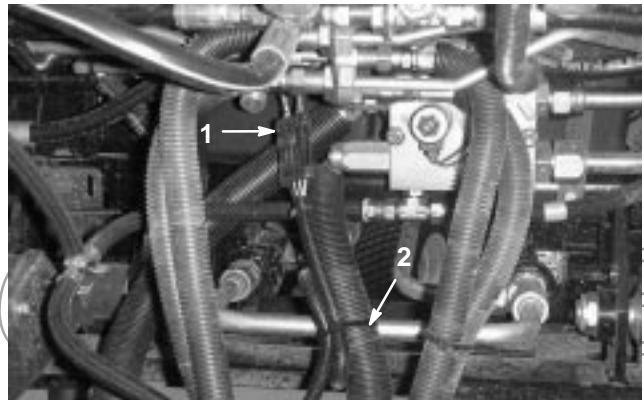

Figure 3
5. Locate and unplug the cutting unit wire harness from the traction unit wire harness (Fig. 3). Connect the wire harness cap (included in the loose parts) to the traction unit wire harness to protect the terminals. To retain cap when not in use, secure the cap loop to traction unit with a cable tie.